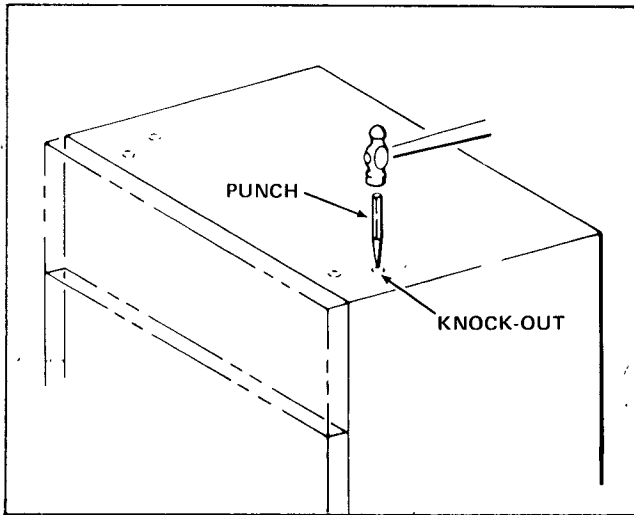

FIGURE 5
1. Use a nail set or a punch to remove the 4 knockouts at the front top of the Merchandiser Cabinet. See Figure 5.
1. Place the Decorative Walnut Cap Assembly on the top of the Merchandiser Cabinet with the sides of the Cap Panel flush with the sides of the Merchandiser. The front face of the Cap Panel is to be aligned with the Upper Panel of the Merchandiser Door. See Figure 5.
6. Align the sides of the Cap Panel with the sides of the Merchandiser and the front face of the Cap Panel with the front of the Merchandiser Door. See Figure 5.